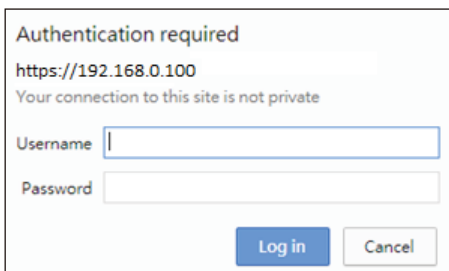

Figure 5-2: Login Screen
2. When the following dialog box appears, please enter the default user name "**admin**" and password "**admin**" (or the password you have changed before) as shown in Figure 5-2.